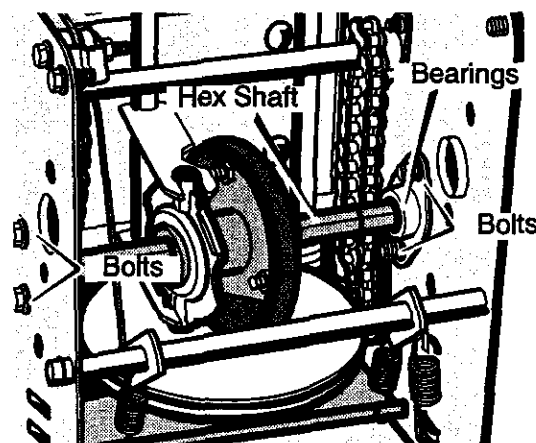

Figure 42
9. Remove the four **bolts** that hold the **bearings** on each side of the **hex shaft** (see Figure 42).